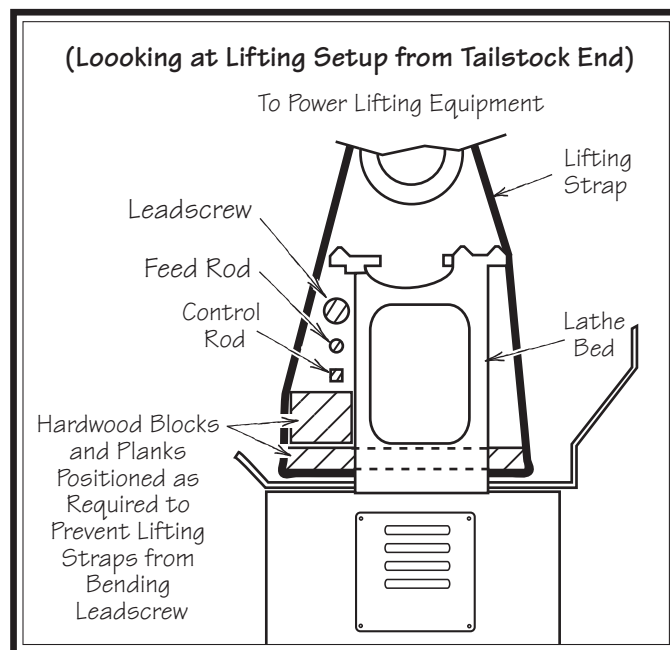

Figure 14. Lifting setup to keep straps from bending leadscrew or rods.
5. Position hardwood blocks under each end of the bed as shown in **Figure 14**. This will keep the lifting straps away from the leadscrew, feed rod, and spindle rod to prevent bending them during lifting.